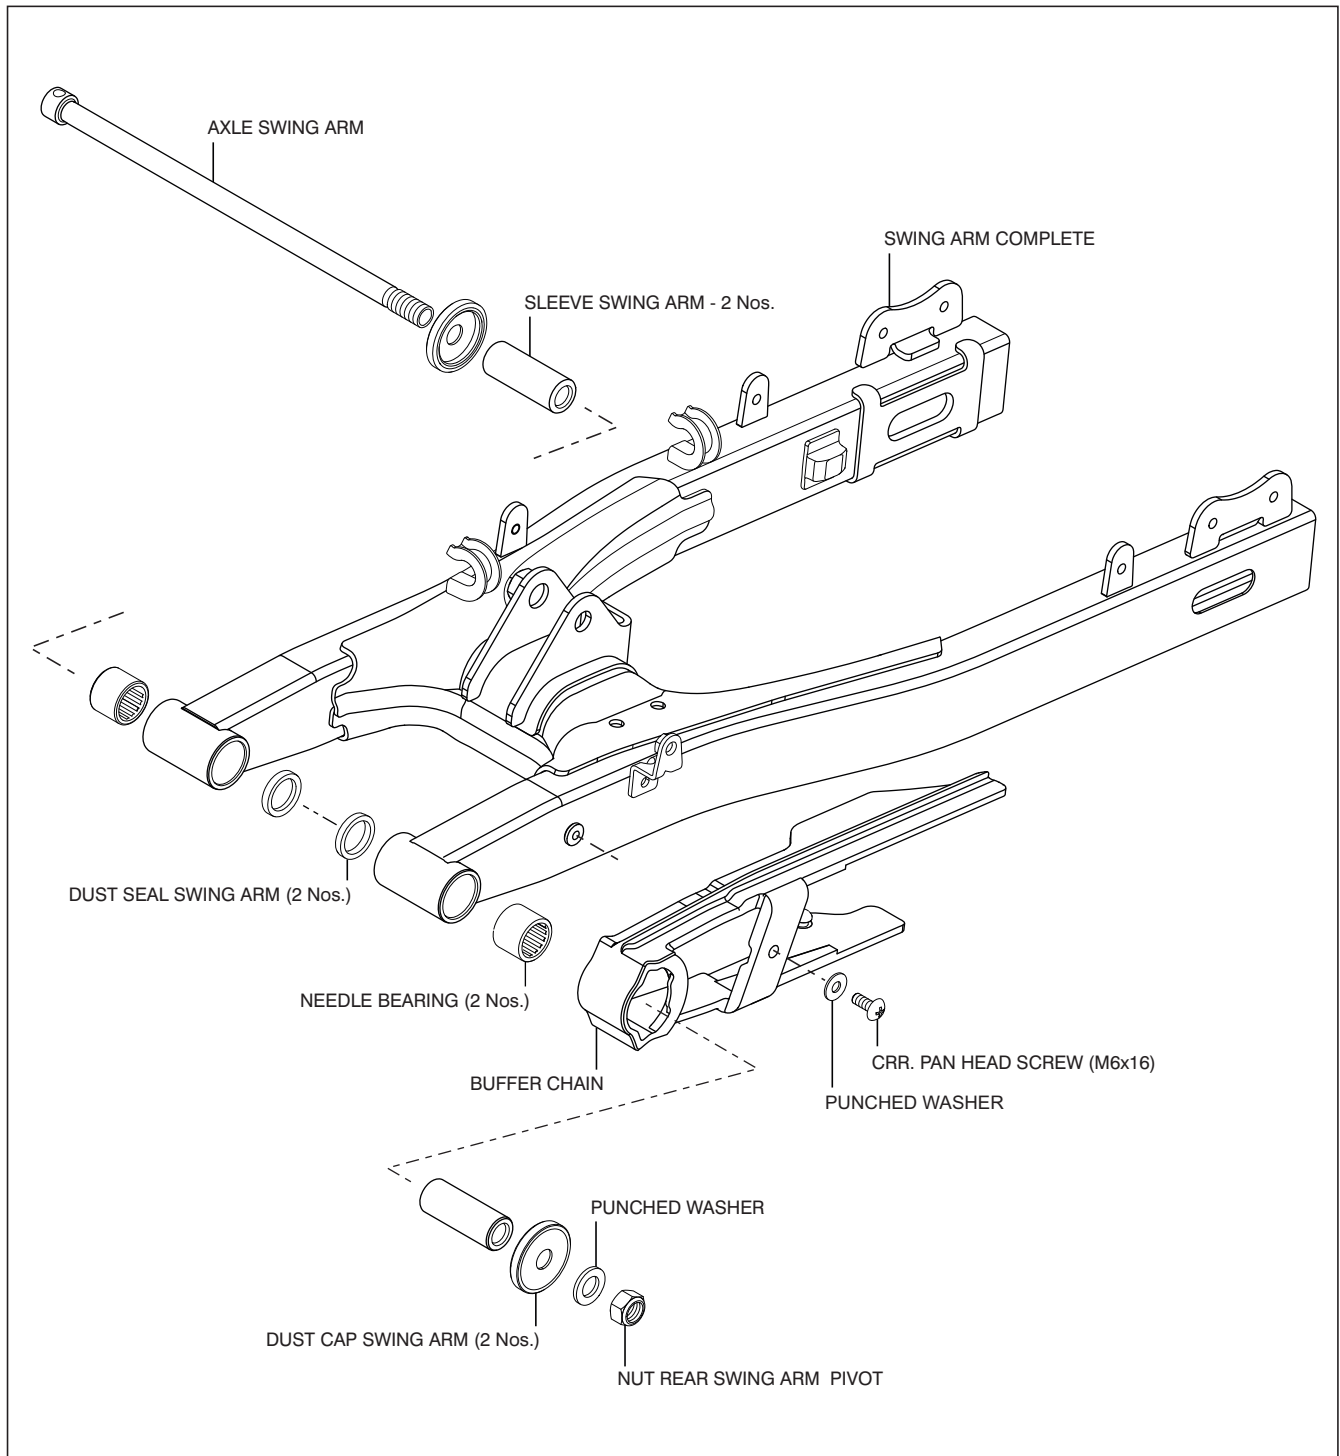

Fig. 6.149
- Reassemble and remount the swing arm complete in the reverse order of removal. Refer exploded view for assembly details. (Fig. 6.149)